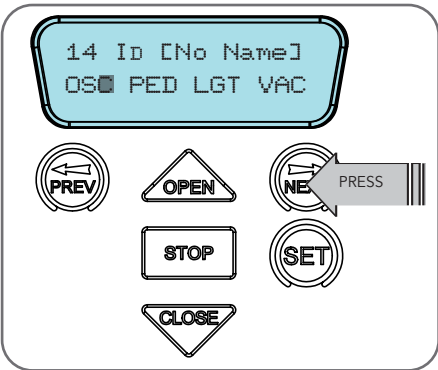

Fig F.4
- a. Press NEXT or PREV to move the cursor over Store No. (**Fig. F.4**)